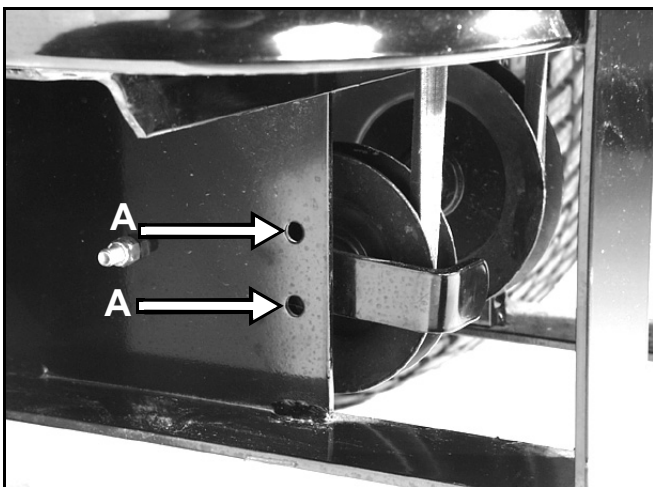

Figure 114
6. Check belt tension. The center bolt of spring loaded idler must be between the two alignment holes (A) in left support plate (Figure 114).
Check position of center bolt in a High Height of Cut. The center bolt must be at or above the lower adjustment hole (Figure 114).
8. Check belt tension again. The center bolt of spring loaded idler must be between the two alignment holes in left support plate (Figure 114). Adjust, if necessary, and tighten all hardware securely.